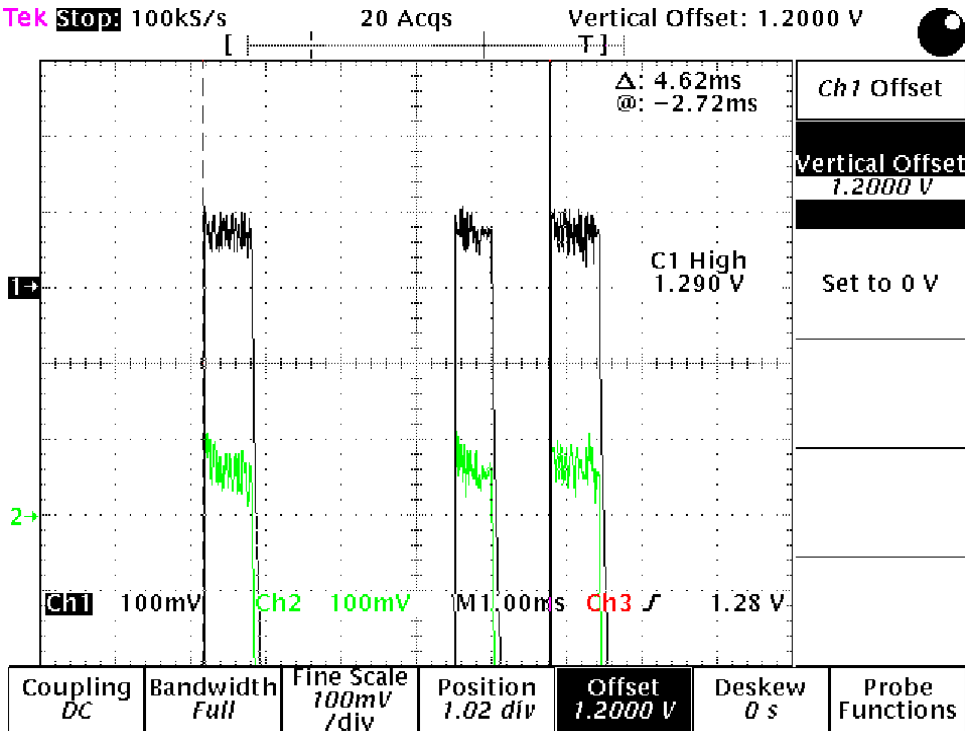

Figure 3-21. RX IQ Signal
8. RX IP, IN, QP, QN (see Fig. 3-21)